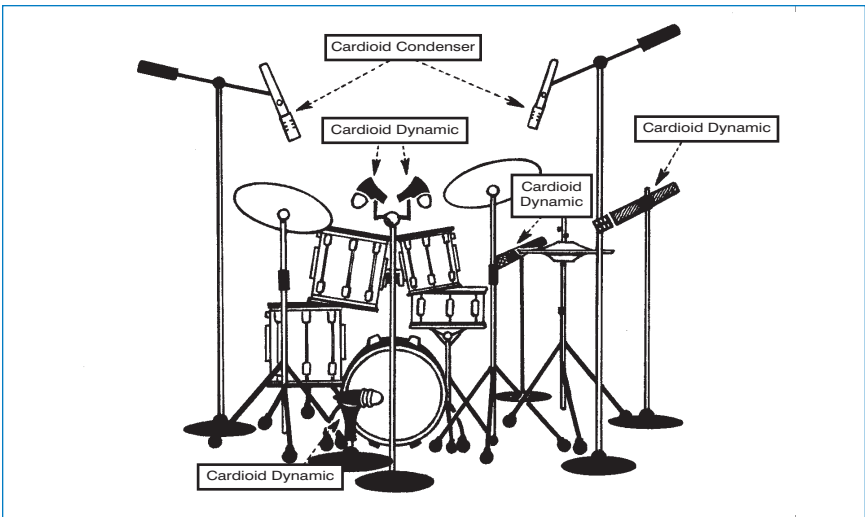

Figure 9
**Drums** (see figure 9) – Rock Band – To get a "big" rock sound, try to place a microphone on every drum, with the following guidelines: